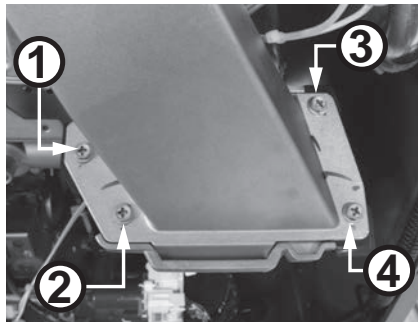

Figure 84 - Remove fan assembly screws
10 Locate the four (4) screws securing the fan assembly to the burner assembly as shown in Figure 84. Use a Phillips screwdriver to remove the screws. Place the screws aside in a safe place for reinstallation.